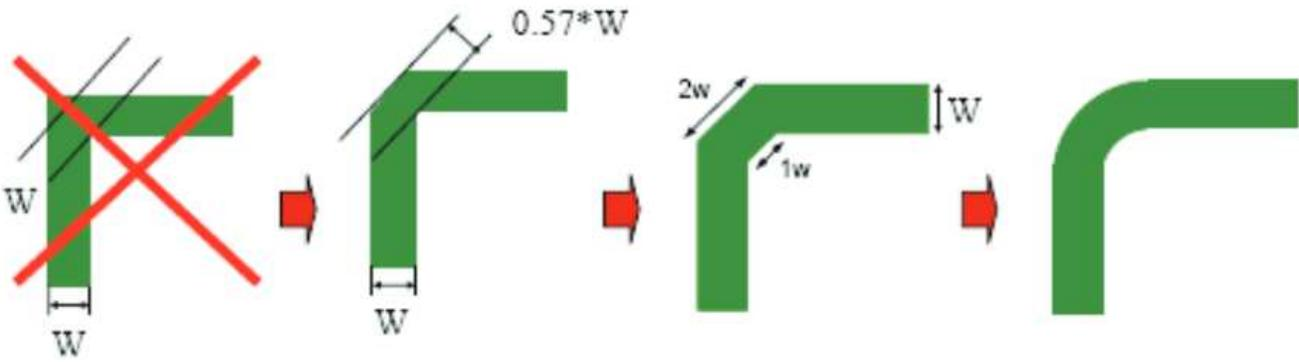

Figure 23. Poor and Good Right Angle Bends
- Avoid right-angle bends in a trace and try to route them at least with two 45° corners. To minimize any impedance change, the best routing would be a round bend (see Figure 23).